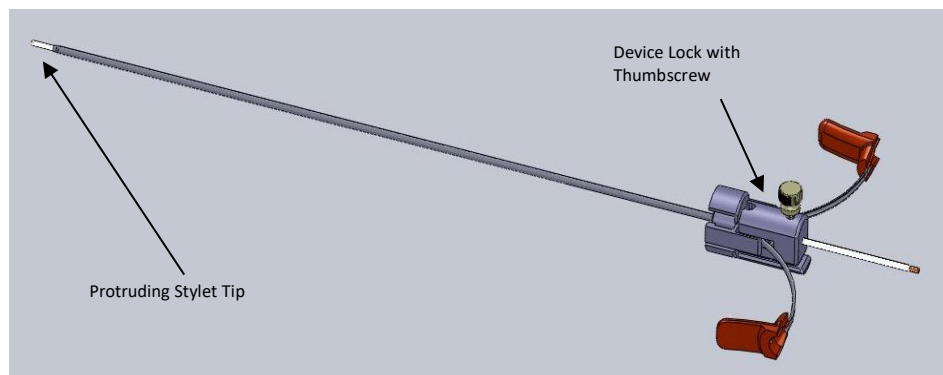

Figure 19: Stylet Inserted into Peel-Away Sheath
16. Insert the Stylet into the Sheath. The distal end of the Stylet should protrude between one (1) and five (5) mm from the end of the Sheath. If it is not protruding, pull on both ends of the hub, peel the Sheath until the distal end of the Stylet protrudes between one (1) and five (5) mm. A slight resistance should be felt.
17. Insert the Stylet into Dock until Device Lock mates and snap locks to Dock. **See Figure 19.**